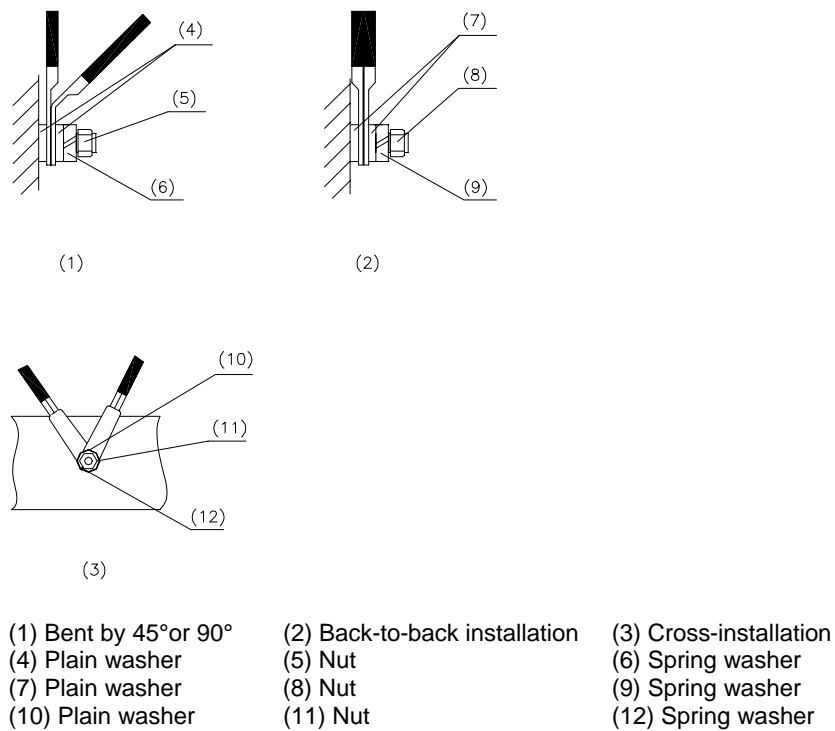

Figure 4-14 Cross-connection of power cables
- When several OT terminals of power cables must be connected to a binding post, the lugs must not be overlapped. Connect them in a cross manner or back-to-back mode, as shown in Figure 4-14.
- If overlapping cannot be avoided, bend the lugs at an angle of 45 degrees or 90 degrees and put the bigger lug under the smaller one, as shown in Figure 4-14.